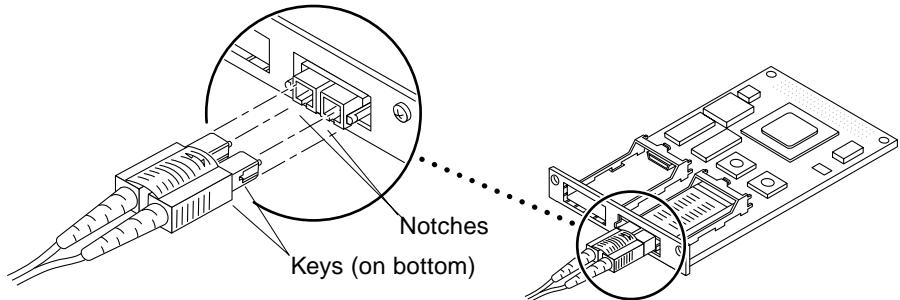

FIGURE 1-2 Connecting a Fiber Optic Cable to a GBIC
7. Push the fiber optic cable connector into the GBIC until the connectors click (FIGURE 1-2).
Caution – Fiber optic cables have keyed connectors; they can only be inserted into GBICs as shown in FIGURE 1-2.